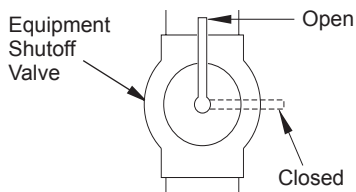

Figure 25 - Equipment Shutoff Valve
- Close equipment shutoff valve (see Figure 25).
1. Open equipment shutoff valve (see Figure 25, page 18).
3. Close equipment shutoff valve (see Figure 25, page 18).